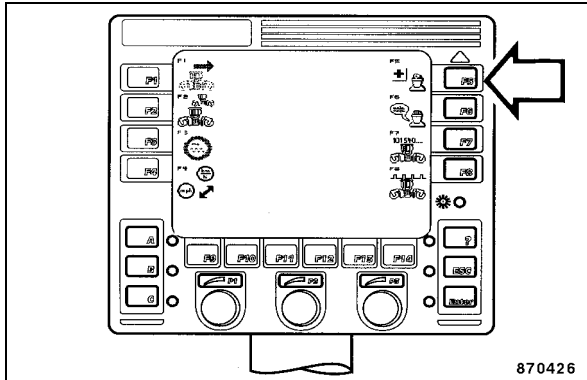

Fig. 202
- Press key "F5" (diagnostics) (Fig. 202).